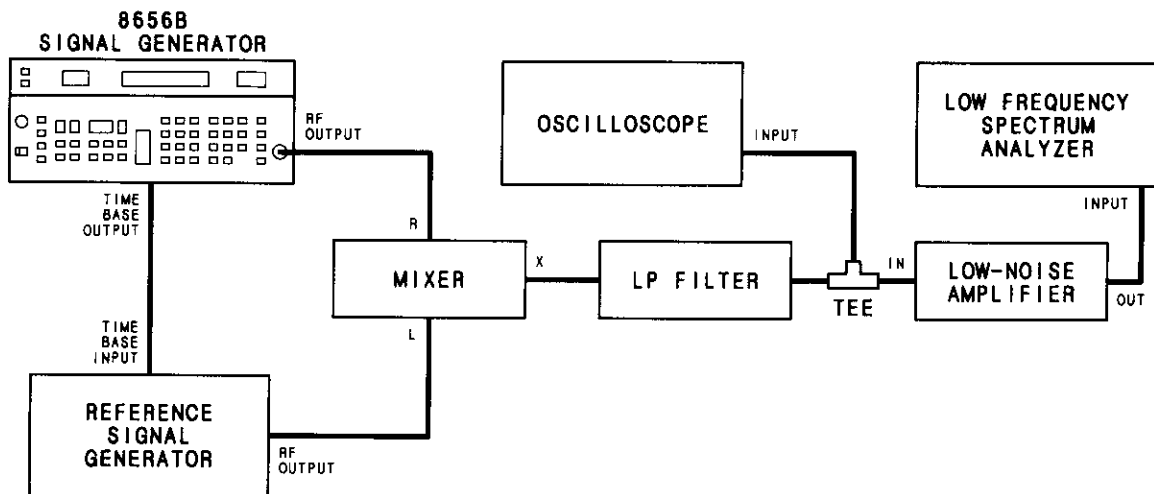

Figure 4-5. SSB Phase Noise Test Setup
14. Connect the equipment as shown in Figure 4-5.